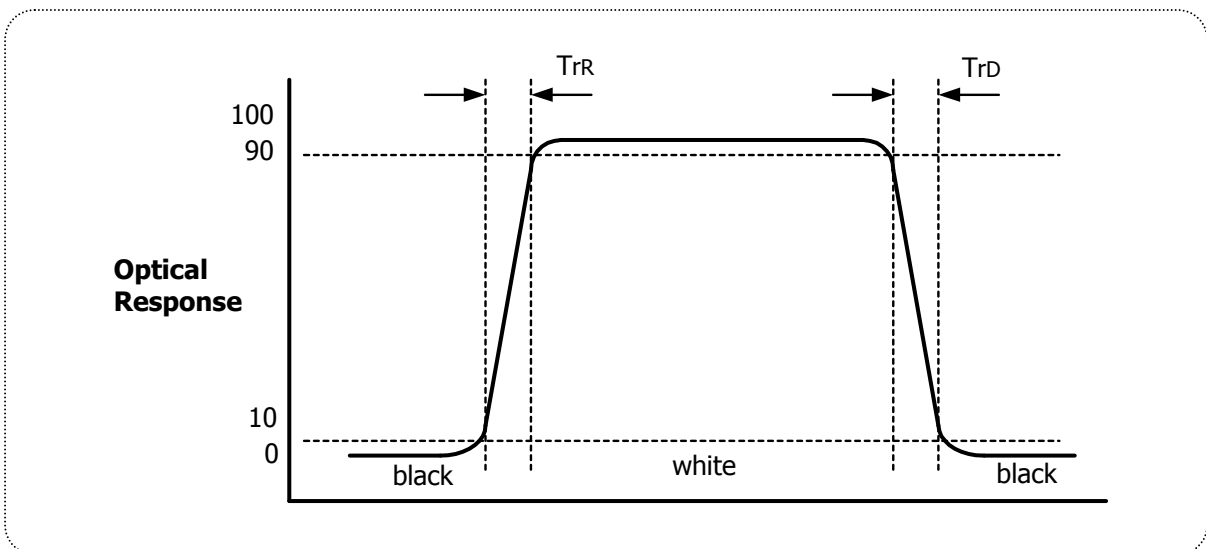

FIG. 5. Response Time
4. Response time is the time required for the display to transition from black to white (Rise Time, Tr_R) and from white to black (Decay Time, Tr_D). For additional information see FIG 5.